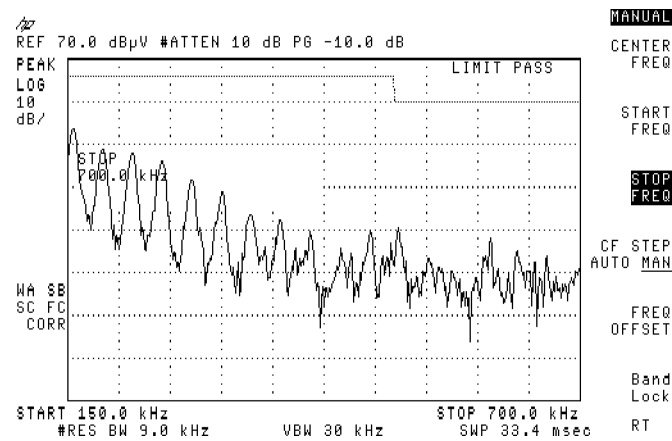

Figure 3-31. Emissions from 150 kHz to 700 kHz
20. Press **STOP FREQUENCY**, 700, **(kHz)**. Set a frequency just above the area of interest. In our example, we are setting the stop frequency to 700 kHz. If you want to increase the stop frequency, use the front-panel knob to increase the frequency until you get most of the device emissions on screen. See Figure 3-31.